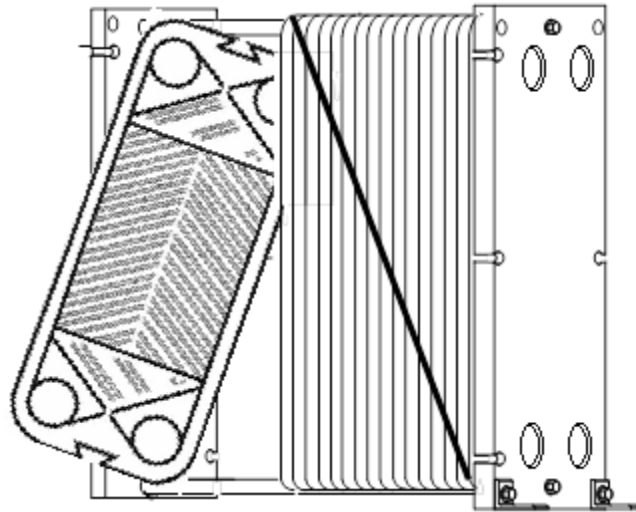

Figure 8-11. Insertion of Plates in Heat Exchanger
5. Install plates one at a time and push them towards the frame plate (Figure 8-11).